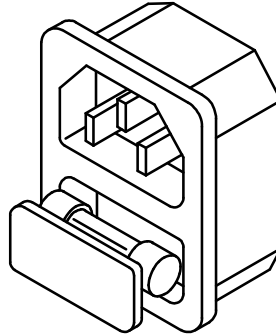

Fig.2-2 AC LINE RECEPTACLE
- 2.2.5 The line fuse is located below the AC line receptacle see Fig 2-2. With the power cord removed, use a small screwdriver to extract the fuse holder from under the AC socket. Replace the fuse with the appropriate type as indicated in Table 1-1. These fuses are normal-blow fuses.